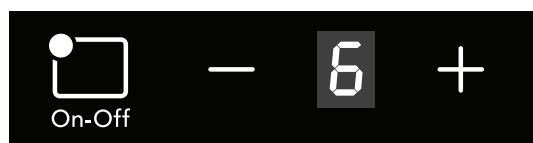

Figure 17: Induction cooking zone control
3. Press the + or - key for the cooking zone (Figure 17) until you reach the desired setting (refer to the Recommended Induction settings on this page).